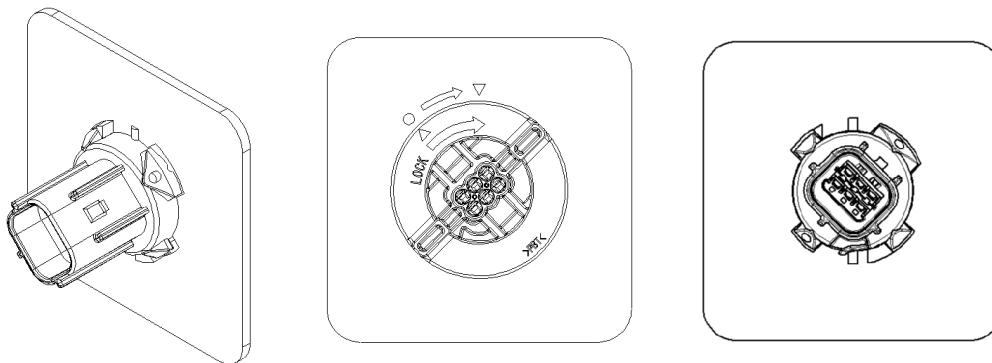
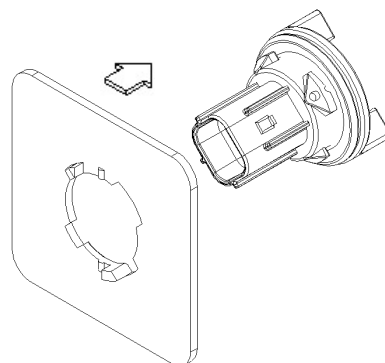

Figure 5. After unlocking
Figure 6. Connector removed from panel
- 2) After releasing the lock (See figure 5), pull the connector to remove it from the panel. (See figure 6)